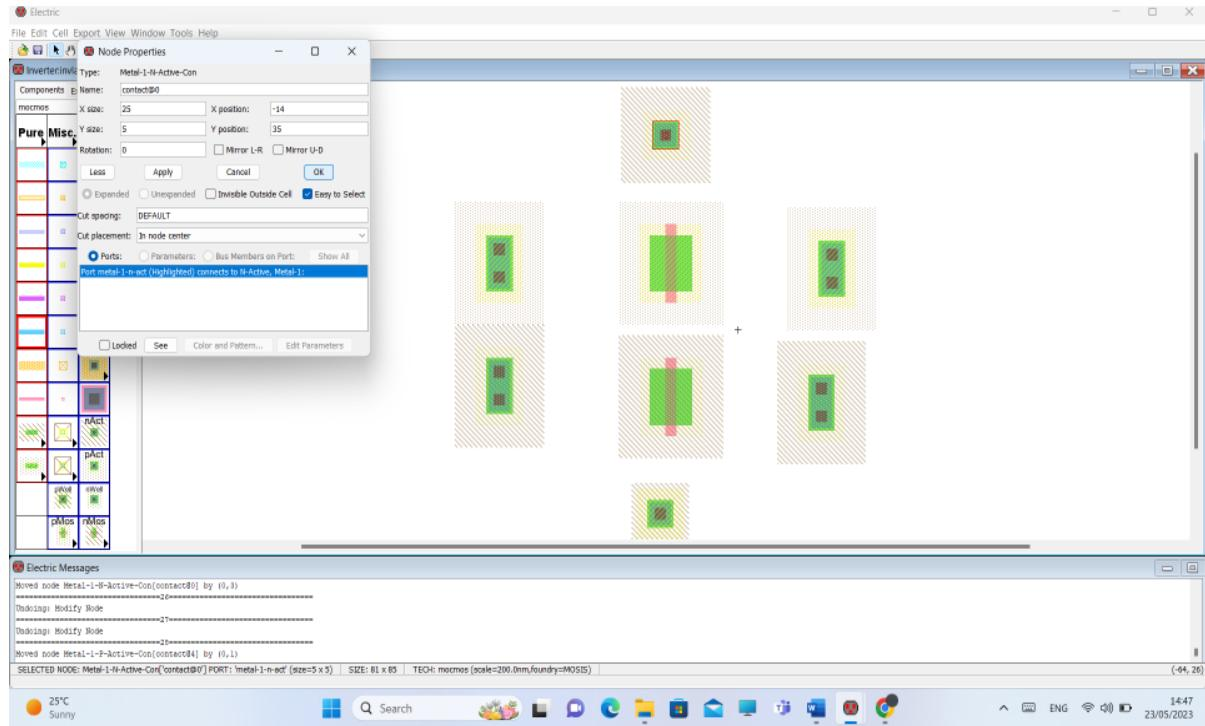

Figure 1.37: changing well size.
5. Change the length to 20 of pwell and nwell. click on the component you need to change such as pAct then click on Edit>>properties >>Object Properties >> change the X size >> OK. (see Figure 1.37 and 1.38).